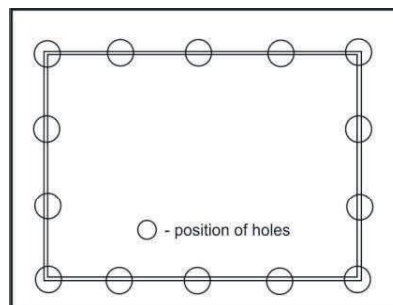

Fig. 3
3. Dig holes (25 cm diameter, 40 cm depth) around the whole perimeter of the foundation near fixing points made in the foundation in order to dig in side – lower bars (No. 1) (Fig. 3)